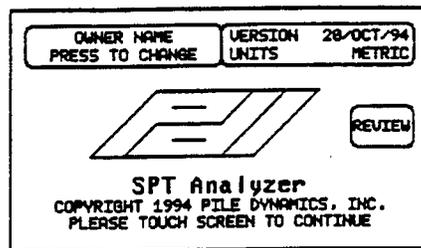

Figure 3-4. Introduction Screen.
11. **Introductory (Start-up) Screen.** This first screen (Figure 3-4) is displayed when the SPT Analyzer is turned on. At this screen touch either a) the owner name if a change is desired, b) the units box to toggle back and forth from English to Metric, c) the review box to access data review options, or if none of these options is desired press d) anywhere else on the screen to continue the Project Description Screen.